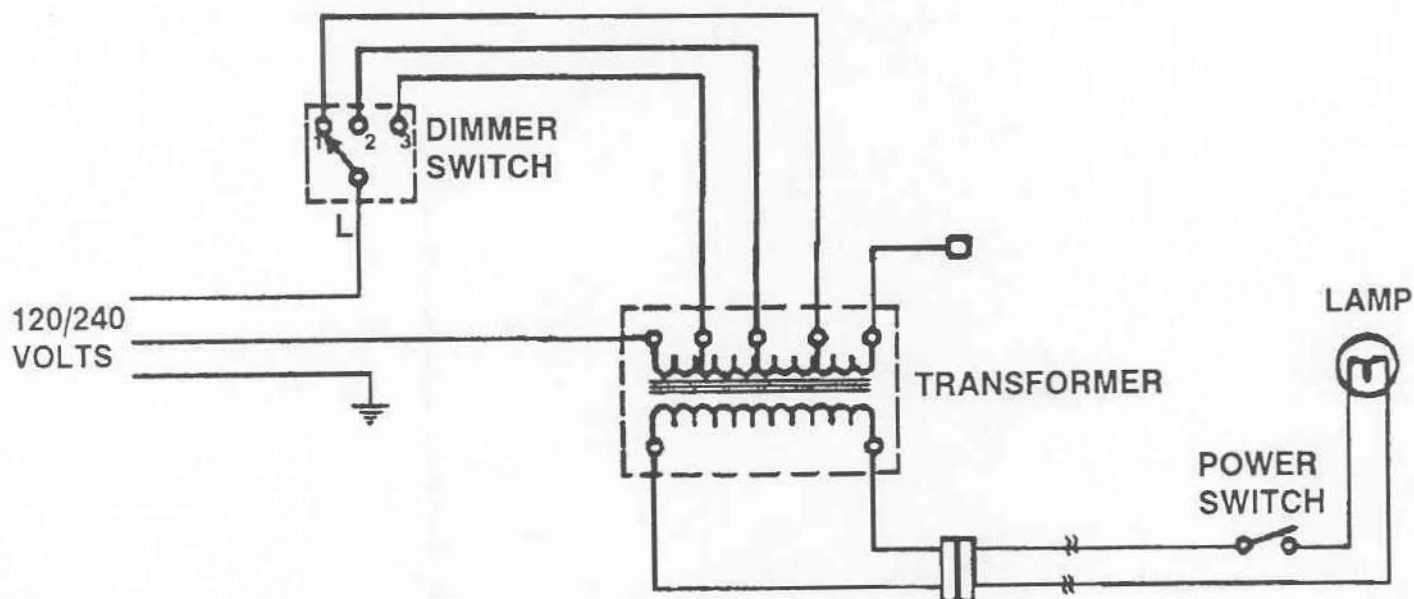

Figure 3-4. Electrical schematic.
b. An electrical schematic for voltage troubleshooting is provided in figure 3-4.